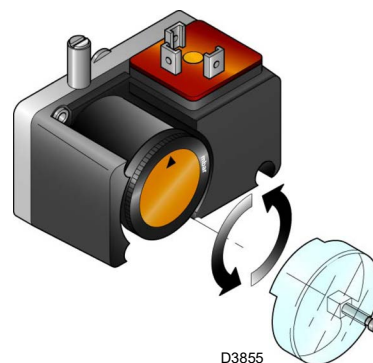

Fig. 30
- Adjust the pressure switch for the leak detection control (PVP kit)(Fig. 30 on page 34) according to the instructions supplied with the kit.
Adjust the pressure switch for the leak detection control (PVP kit) (Fig. 30) according to the instructions supplied with the kit.